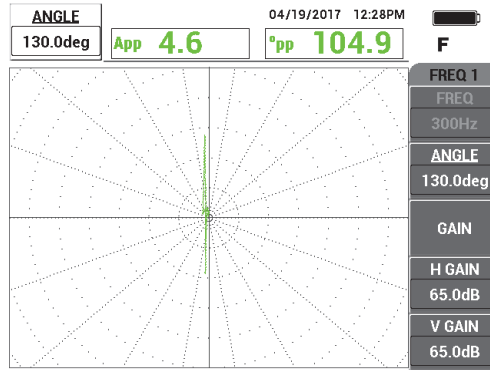

Figure 5-228 Adjusting the signal phase
- 3. Press the ANGLE key () , and then rotate the signal until the hole signal is vertical (see Figure 5-228 on page 290).